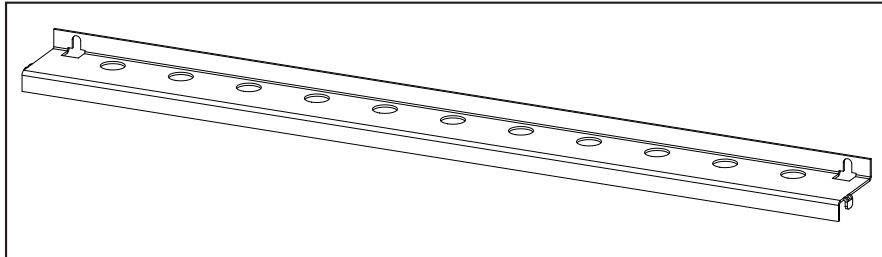
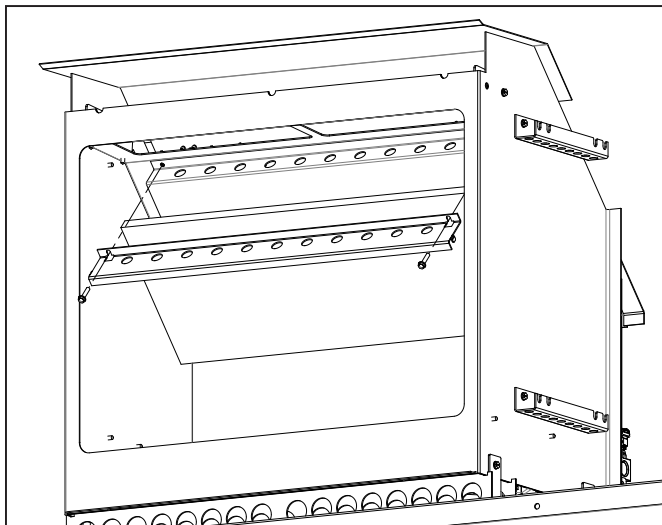

Figure 74: Panel bracket, slots shown.
Figure 75: Top panel placement, screws shown.
1. Remove the two (2) screws from the rear of the baffle, use a $\frac{1}{4}$ " socket. Place the panel bracket (Figure 74) at the rear of the baffle with the slots over the screw holes (see Figure 75). Insert two (2) of the provided screws into the two (2) holes along the bottom of the baffle.
2. Remove the two (2) screws from the front of the baffle. Slide the top brick panel into the bottom bracket and place the other bracket over the top of the panel and line up the slots on the bracket with the holes at the top of the baffle. Use two (2) of the provided screws to hold the bracket in place. Ensure the top panel is centered before tightening the four (4) screws completely (refer to Figure 75).